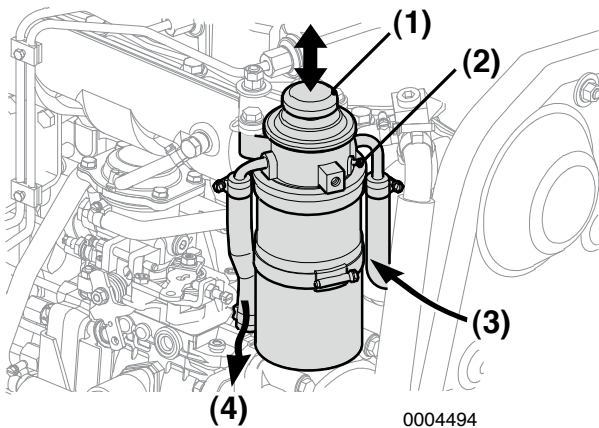

Figure 7
3. Loosen the air bleed screw (**Figure 7, (2)**) 2 - 3 turns.
4. Push up and down on the priming pump (**Figure 7, (1)**) to release air out of the air bleed screw.